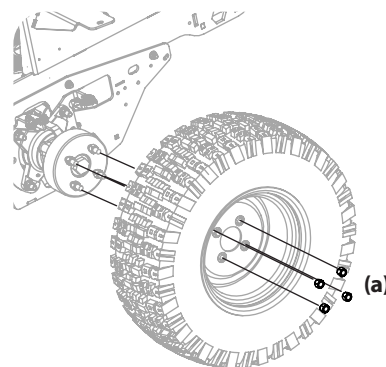

Figure 39
1. Remove the four lug nuts (a) to remove the tire. See Figure 39.
2. Reinstall the tire using the four lug nuts. See Figure 39. Torque the lug nuts (a) to 65-70 ft-lbs.